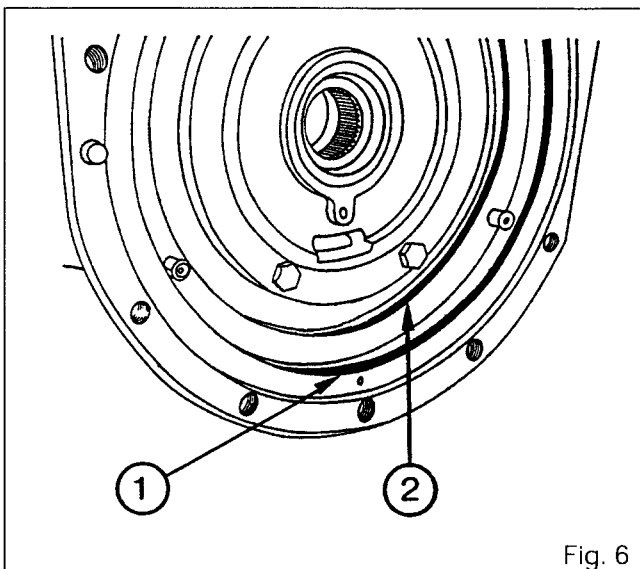

Fig. 6
9. Fit spring pins (4) at about 8 mm from machined face "F" of the piston (Fig. 3A). Fit new O-rings (1) and (2) (Fig. 6) after smearing them with a moderate quantity of miscible grease so that they remain at the bottom of the groove.